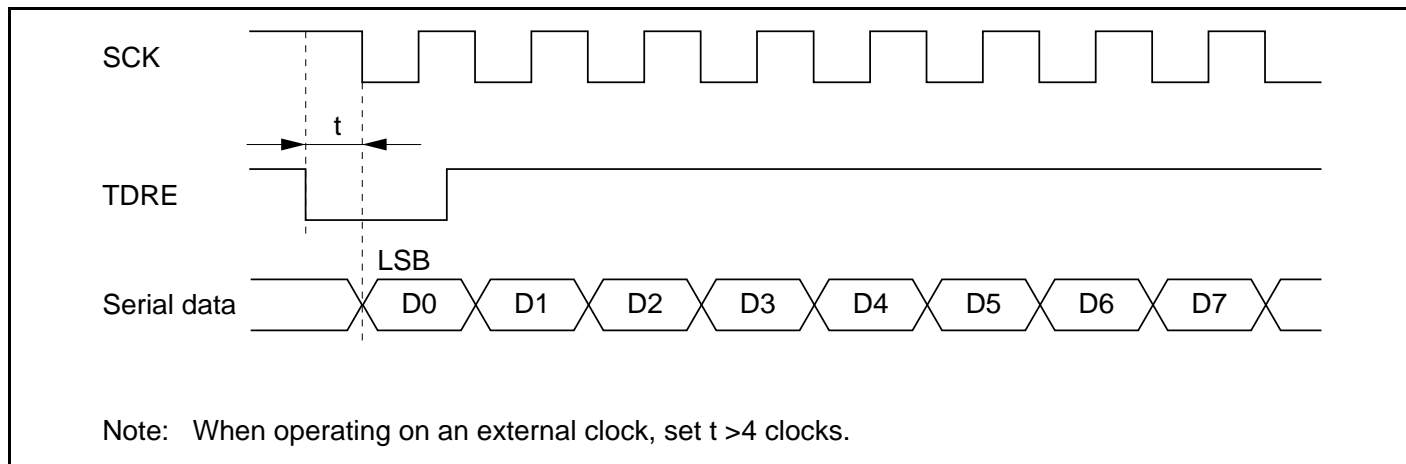

Figure 14.22 Example of Clocked Synchronous Transmission by DTC
- When an external clock source is used as the serial clock, the transmit clock should not be input until at least 5 ϕ clock cycles after TDR is updated by the DMAC or DTC. Misoperation may occur if the transmit clock is input within 4 ϕ clocks after TDR is updated. (Figure 14.22)